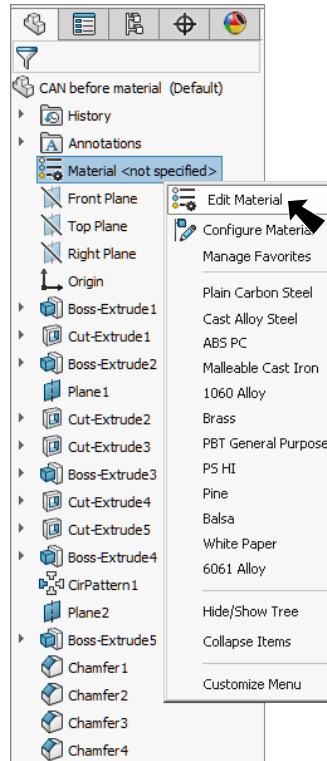

Fig. 114
Step 1. **Right click Material**  in the Feature Manager and click **Edit Material**, **Fig. 114**.